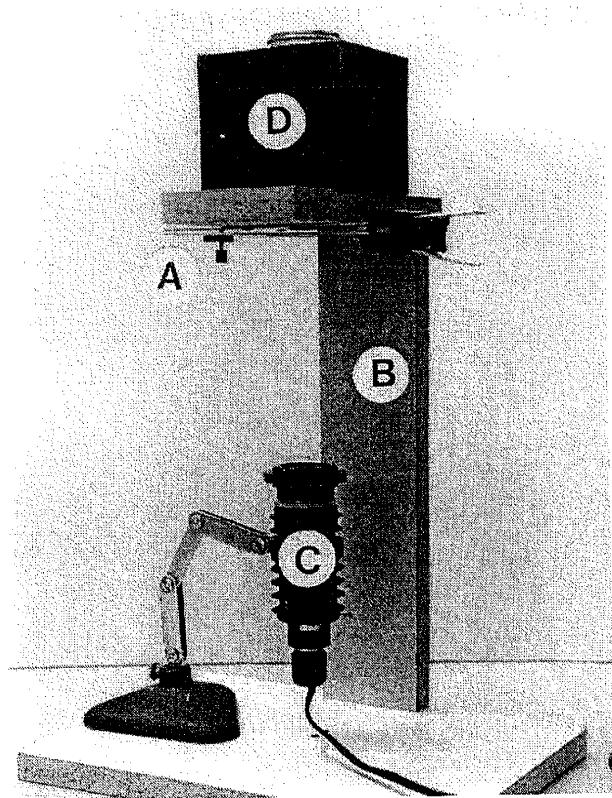

Fig. 1. The photographic set-up. The camera rests on the box extension D.
The set up is shown (less camera) in Fig. 1. A focusing mechanism (A), which holds the object and microlens in close and adjustable proximity, is mounted on a wooden stand (B), over a light source (C). A self aligning light tight extension (D), and an SLR camera body are stacked together above the lens and may be removed and replaced rapidly without disturbing the optical arrangement. The extension, which serves to increase image distance, and hence increase the magnification, is a plywood box painted matte black on the inside. The image distance, lens to film plane, is 14.5 cm.